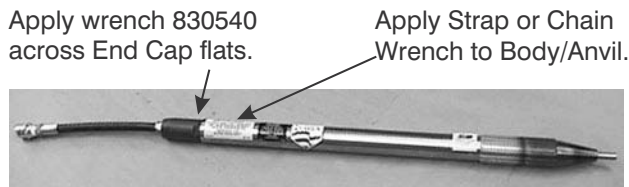

Figure 11-10. Loosening the End Cap
loosen the End Cap (16). It may be necessary to strike the wrench handle several times with a hammer to loosen the End Cap. Refer to Figure 11-10.